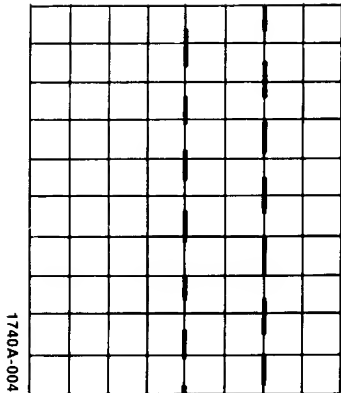

Figure 5a. Normal Display
2. Adjust the horizontal POSITION 25 control to place the waveform portion you want to magnify on the CRT center graticule (see figure 5a).